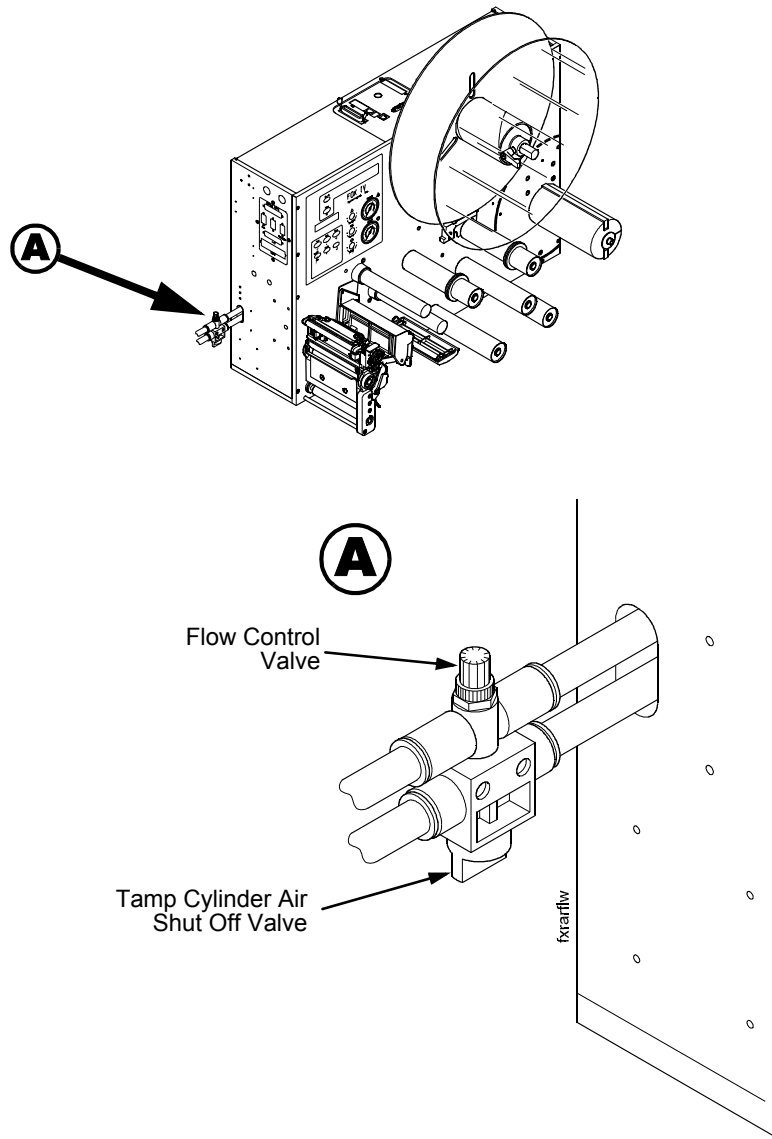

Figure 37. Return Speed Control Valve
2. Use the flow control valve (located on the air cylinder) to adjust the speed of the return stroke. (Figure 37.) Increase the speed by rotating the valve counterclockwise and decrease the speed by rotating the valve clockwise.